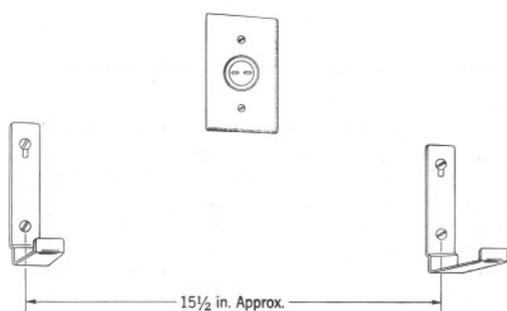

Fig. 4 – Installing KS-14154, List 3 Brackets to Vertical Surface
- To install a KS-14154, List 1 sign on a vertical surface, use two KS-14154, List 3 brackets, as shown in Fig. 4.